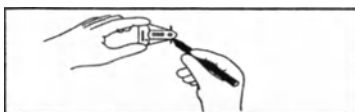

FIGURE 8
- When the magnet on the MAGNA-FINDER® is perpendicular to the base of the MAGNA-FINDER®, mark the tissue with a surgical marker at the two notches on the base of the MAGNA-FINDER®. The line between these two marks indicates location of one plane, as shown in Figure 8. The MAGNA-SITE® will be at one point along this plane.